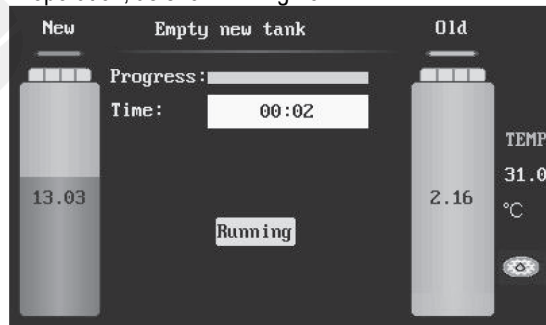

Fig.28
- 7) The system will enter into the interface for Empty new tank, and automatically start fluid draining operation, as shown in Fig.28.